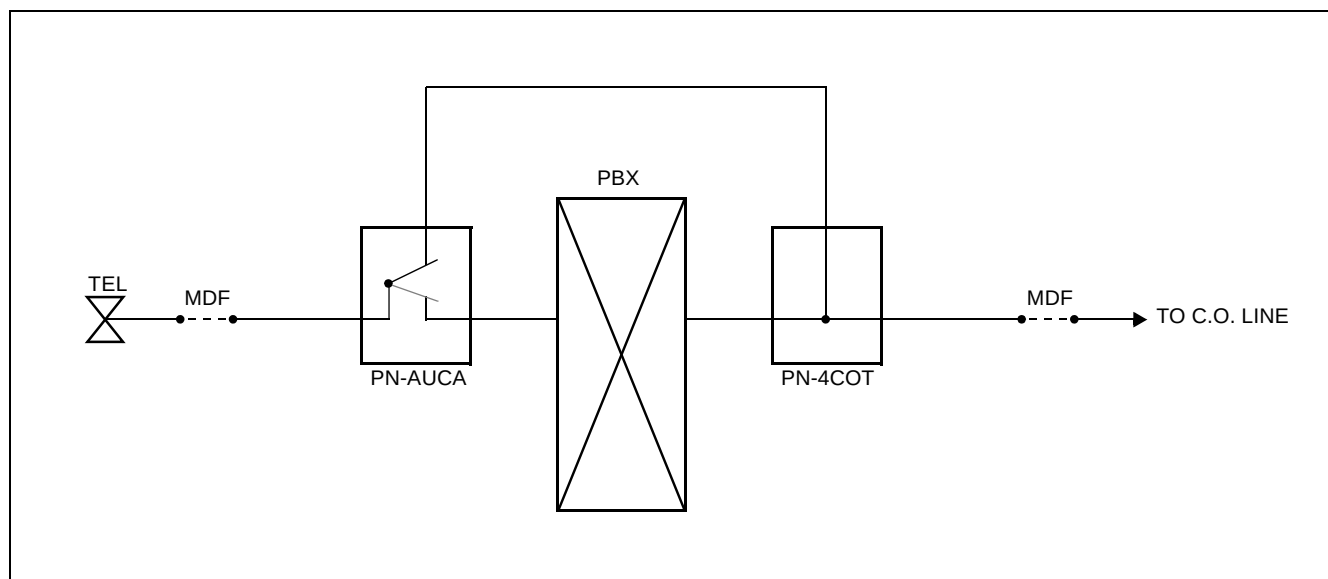

Figure 007-30 PFT Connection Outline
- Figure 007-30 shows an outline of a PFT (PN-AUCA) connection.